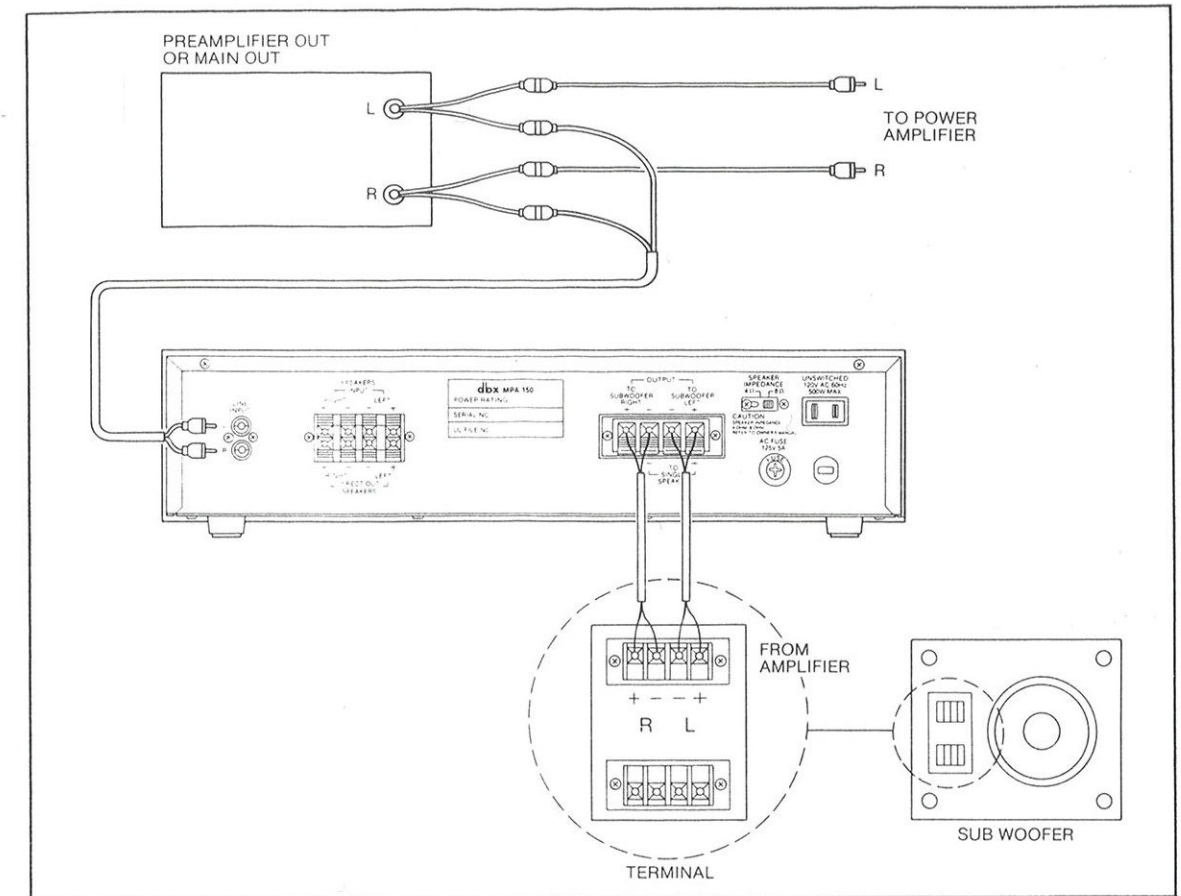

Figure 3
Note: You will need RCA-type “Y” connectors and a pair of RCA-type interconnect cables (not supplied), as well as a pair of standard speaker wires to connect your MPA 150 as shown in Figure 3.
2. Using an RCA-type "Y" cable, connect the left preamplifier output (or main output) terminal to the left power amplifier input terminal and the left **LINE INPUT** terminal on the MPA 150 rear panel as shown in Figure 3. Then, connect the right preamplifier output (or main output) terminal to the right power amplifier input terminal and the right **LINE INPUT** terminal on the MPA 150 rear panel. (See Figure 3.)
3. Connect your dbx Model db-SW15 or BSR Model DR-SW15X2 or equivalent subwoofer left and right input terminals to the left and right **OUTPUT TO SUBWOOFER** terminals on the MPA 150 rear panel as shown in Figure 3.